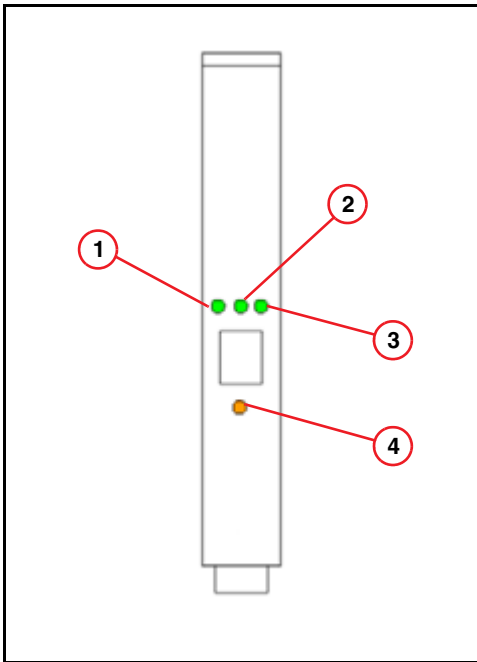

Fig. 9: 1 GB LAN card
- The green **Link LED** (1/Fig. 9 / p. 35) indicates the following conditions:
- The green **RX LED** (2/Fig. 9 / p. 35) and the **TX LED** (3/Fig. 9 / p. 35) indicate the following conditions:
- The yellow **Status LED** (4/Fig. 9 / p. 35) indicates the following conditions:
- The Link LED (1/Fig. 9 / p. 35) is ON
- The Status LED (4/Fig. 9 / p. 35) is ON